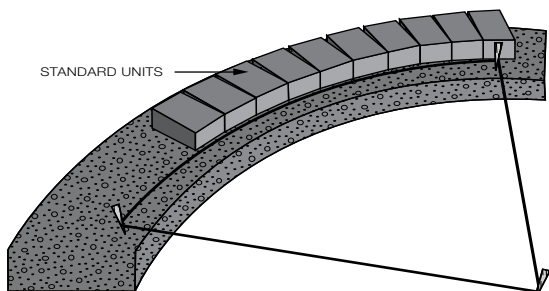

Figure 42. On inside curves, the radius will increase with height.
*Installation* - The inside curve is constructed using standard units (Figure 42). The faces of the units must be placed tightly together. Depending on the desired radius, small gaps should be placed at the back. The smallest radius will occur on the bottom course. Each additional course will result in an increase by the wall setback in the radius. Also, the vertical joints will start to line up on successive courses, making it necessary to place half units at random locations.